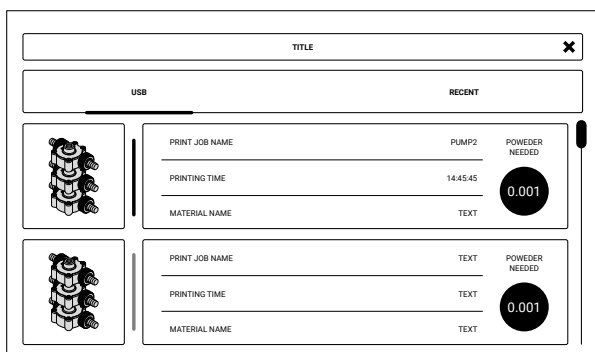

Fig. 6.1 Loading the file.
9. Choose the new file (**USB**) or recently used file (**RECENT**) (fig. 6.1).